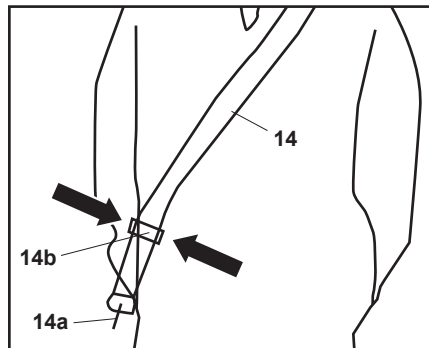

Fig. 7
1. Place the harness (14) so that it runs over the left shoulder, crossing the chest and back. The securing clip (14a) must be located at the right hip. The quick release (14b) must be in front (Fig. 7).
5. In case of emergency press two clips of the quick release (14b). The product together with the securing clip (14a) will be released automatically from the body because of the weight of the product (Fig. 7).